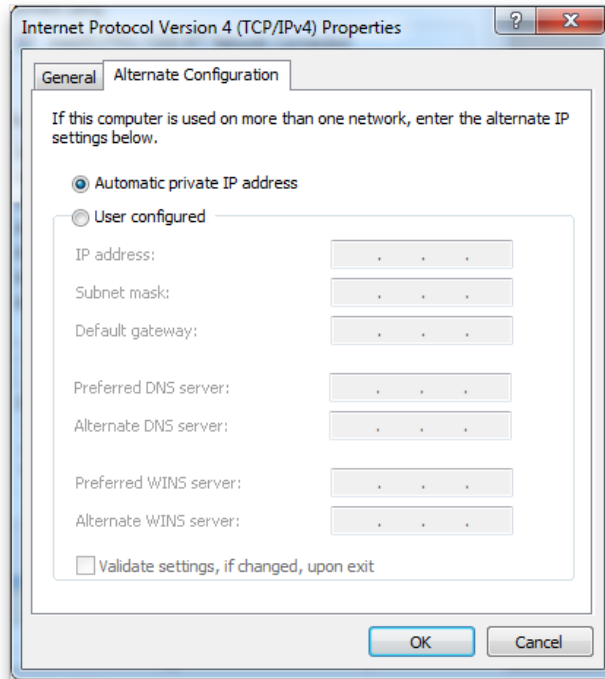

Figure 16: Internet Protocol TCP/IP Properties Window
4. Click OK. The Reader displays its browser-based interface. The initial page that appears is the Status page, as shown in Figure 16.